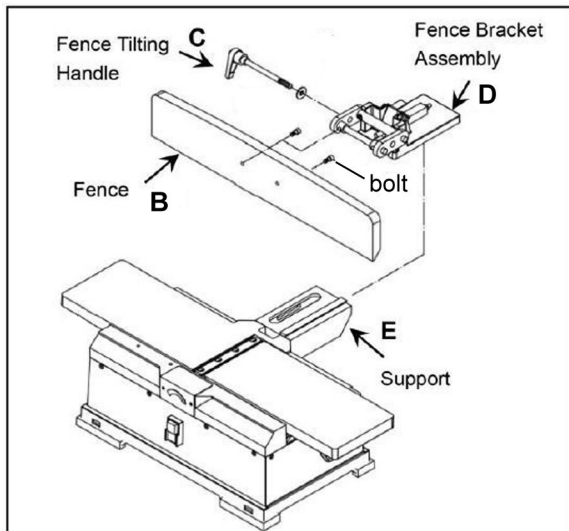
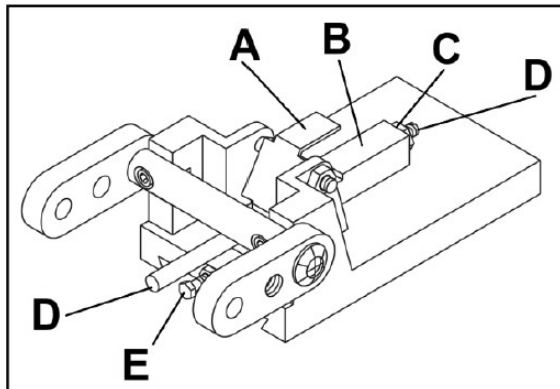

Figure 8-4
Figure 8-5
Attach fence (B, Figure 8-4) to fence bracket assembly (D) with two M6x20 socket head bolts.
Insert fence tilting handle with spacer (C, Figure 8-4) through right link and thread into left link.
See Figure 8-5:
Make sure limit plate (A, Figure 8-5) is resting in slot of block (B). Position fence against shaft (D) and lock fence in position with fence tilting handle.
Place a combination square against face of fence and table surface. The fence and table must be at 90° to each other. If not, loosen tilting handle (C, Figure 8-4), loosen hex nut (C, Figure 8-5) and turn shaft (D, Figure 8-5) with a screw driver until fence is square. Secure in position by tightening hex nut (C, Figure 8-5).
Use a bevel gauge or protractor to check 45° inward and outward limit stops. The 45° inward stop (E, Figure 8-5) is the hex head bolt located beneath the shaft. The 45° outward stop is located at the top of the fence.